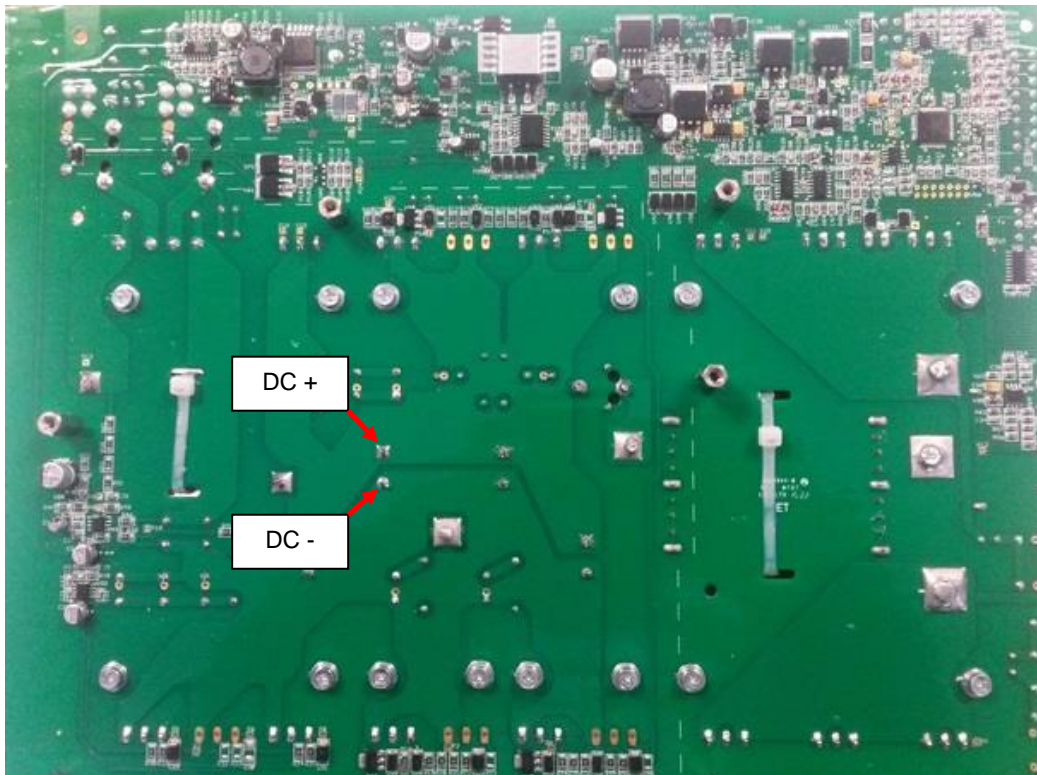

Figure 1
6. Once the Main Board has been removed connect your multi-meter positive probe to **DC+** point and your negative probe to **DC -** and check the voltage across filter capacitors. **See Figure 1**
9. Use electrically insulate gloves and insulated pliers. Hold the body of the resistor and connect the resistor leads across the two points DC+ and DC -. **See Figure 1**. Hold the resistor in place for 10 seconds. DO NOT TOUCH CAPACITOR TERMINALS WITH YOUR BARE HANDS.